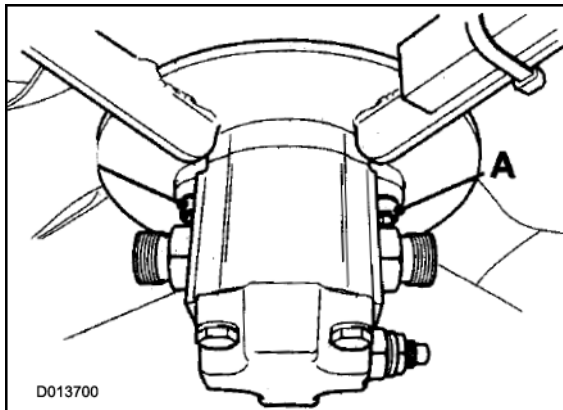

Fig 66.
- 10 Lower the fan housing to the closed position and remove the two Allen bolts A securing the fan motor to the spider and remove the motor → Fig 66. (□ E-43).